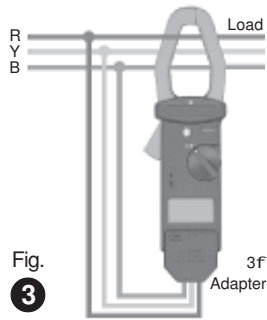

Fig. 3
8. For 3 Phase 3 Wire balanced load system, insert 3f plug in adapter in terminals " COM " and " V ". Connect three crocodile clips to appropriate phase (R, Y and B). Clamp " R " Phase conductor. 3F power = 3 x Meter indication (Refer fig 3).